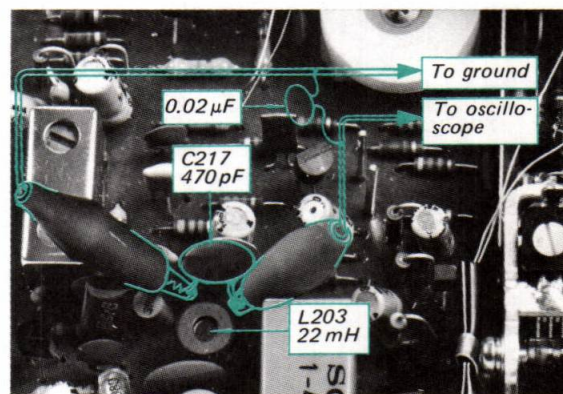

Fig. 3-3. Fm discriminator output connection
1. Connect the input cable of the oscilloscope with alligator clips to C217 and ground on the fm (a-m) front end/i-f amp/MPX board, and solder a 0.02 μF capacitor across these clips, as shown in Fig. 3-3.